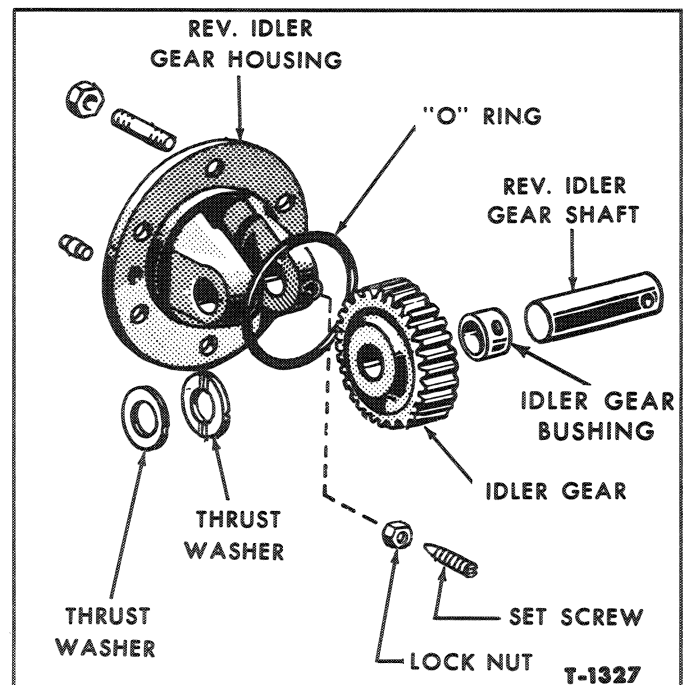

Figure 29—Reverse Idler Gear
1. Loosen the lock nut and remove the set screw that holds the shaft in the reverse idler gear housing, Figure 29. Remove the shaft, the gear, and the two washers. Remove the bushing from the gear with a hammer and punch.
3. Position the two thrust washers, thick washers next to gear, on the front (short hub) side of the idler gear. Hold the gear and washers in place in the housing, and install the shaft, Figure 29. Secure the shaft with a set screw and lock nut.